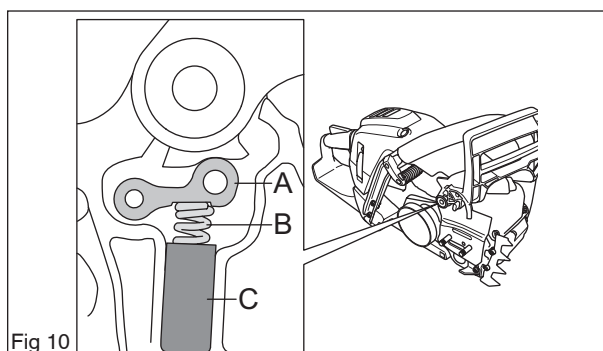

Fig 10
5. Screw the kickback guard in place and put the rocket in position. Position the spring (B) in the plastic housing (C) (see figure 10) and press the spring against the rocker and then press the plastic housing into its groove. Tighten the chain guide plate in place.